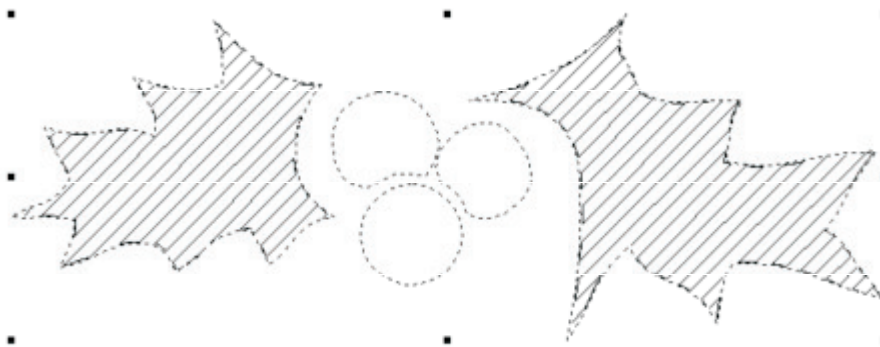

Figure 7
- 5 Select 45° Shading from the Main Toolbar. Select a Medium Shading from the Shading Parameters Dialogue Box. Click somewhere inside the left hand side leaf of the holly, then on the right hand leaf. See the results in Figure 7.